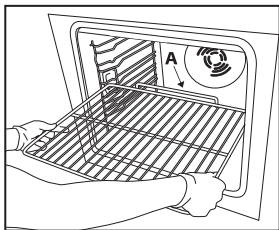

Fig. 1
1. Insert the rack horizontally, with the raised part "A" upwards (Fig. 1).